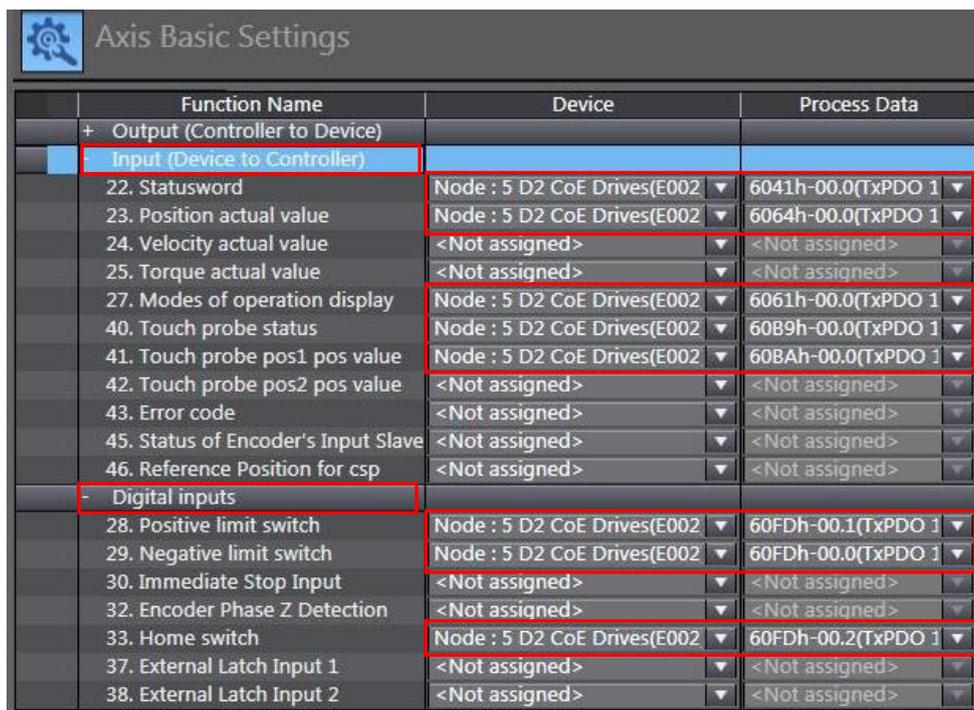

Fig. 5-47
- d. Set PDO mapping for “Input (Device to Controller)” and “Digital Inputs”, as shown in Fig. 5-47.